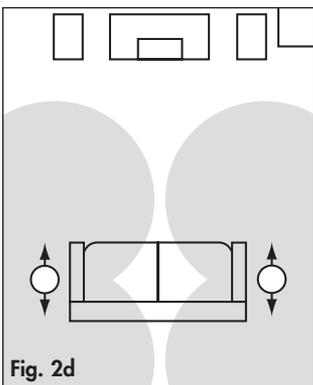

Fig. 2d
7.1-Channel System: Surround + Rear Placement Using Two Speakers (Fig. 2d)